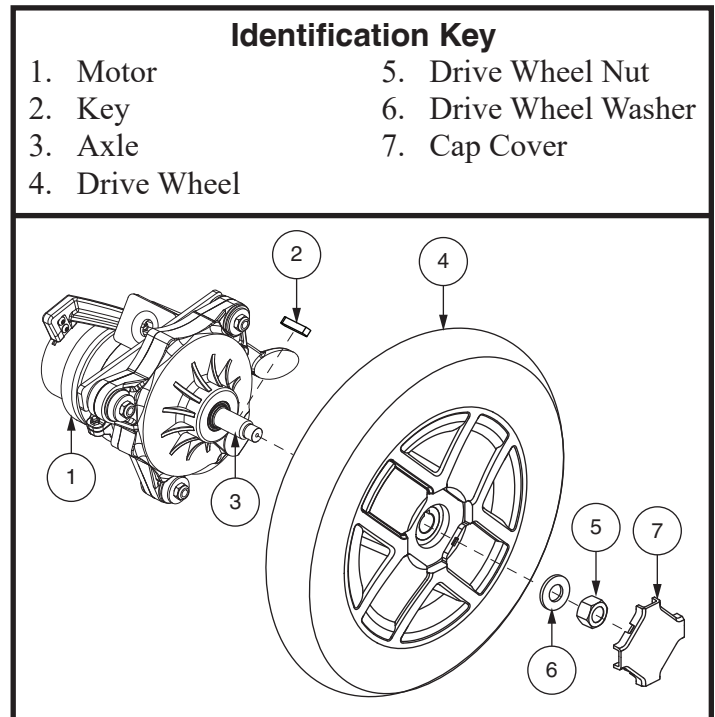

Figure 13. Drive Wheel Removal
4. Remove the cap cover, drive wheel nut, and washer from the axle. **See figure 13.**
6. Remove the screws from the rim assembly and separate the front and rear rim. **See figure 13.**
A battery wiring diagram is printed on a decal located on the front battery tray. See figure 13. See VI. “Batteries and Charging” for correct battery specifications.
9. Install new batteries into the power base. Make sure the terminals of each battery are facing toward each other. See figure 13.